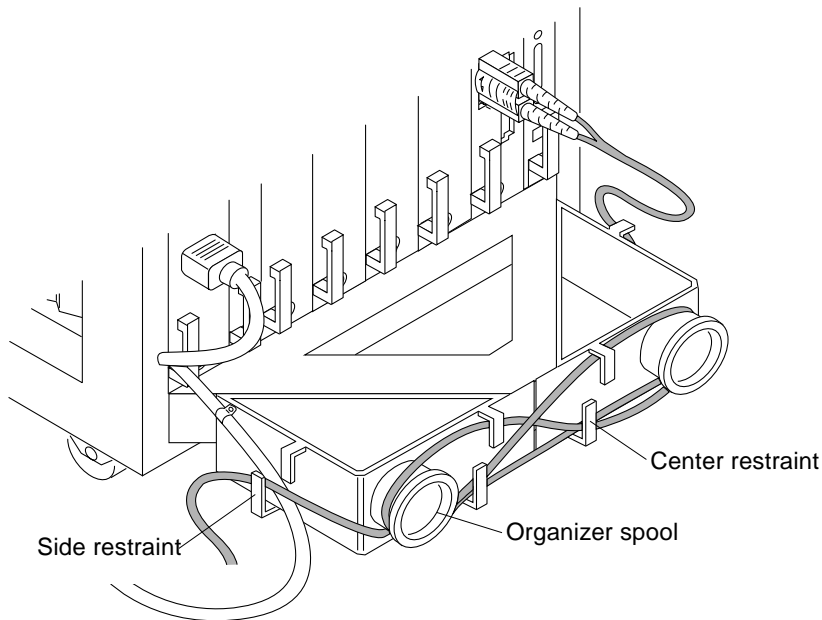

FIGURE 2-12 Fiber Cable in “Figure 8” Pattern
5. Wrap the cable around the fiber cable organizer spools (mounted on the system rear support bracket) in a “figure 8” pattern (FIGURE 2-12)